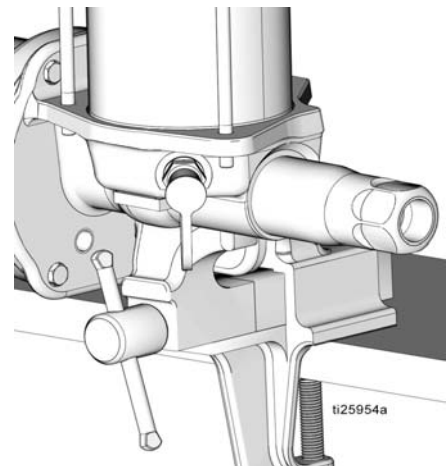

FIG. 11
6. Clamp pump base in a vise as shown in FIG. 11. Use a soft-jaw vise or place a rag in the vise jaws to protect the surface of the pump base.